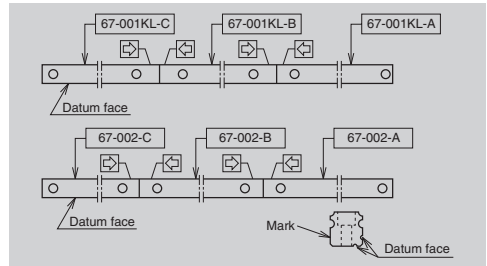

Fig. 9.25
- The rails with butting specification are marked with alphabet (A, B, C ...) and an arrow on the opposite side of the mounting datum face. Use the alphabets and arrows for assembly order and direction of the rail (Fig. 9.25).